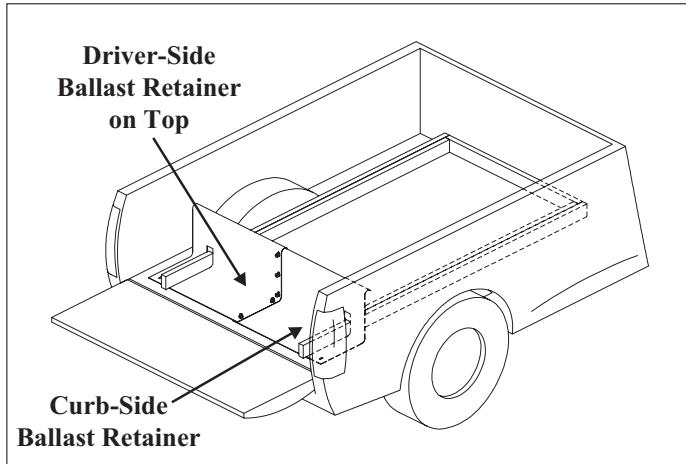

Figure 5
2. For 8' boxes, assemble the ballast retainer using the pre-drilled holes. Proceed to Step 6. For any other size box, place the two ballast retainers on the wood frame with the driver-side ballast retainer on top of the curb-side ballast retainer. See Figure 5.